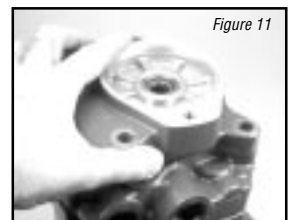

Figure 11
**10** With the cap screws removed, remove the charge pump adaptor assembly from the backplate. (See Figure 11)